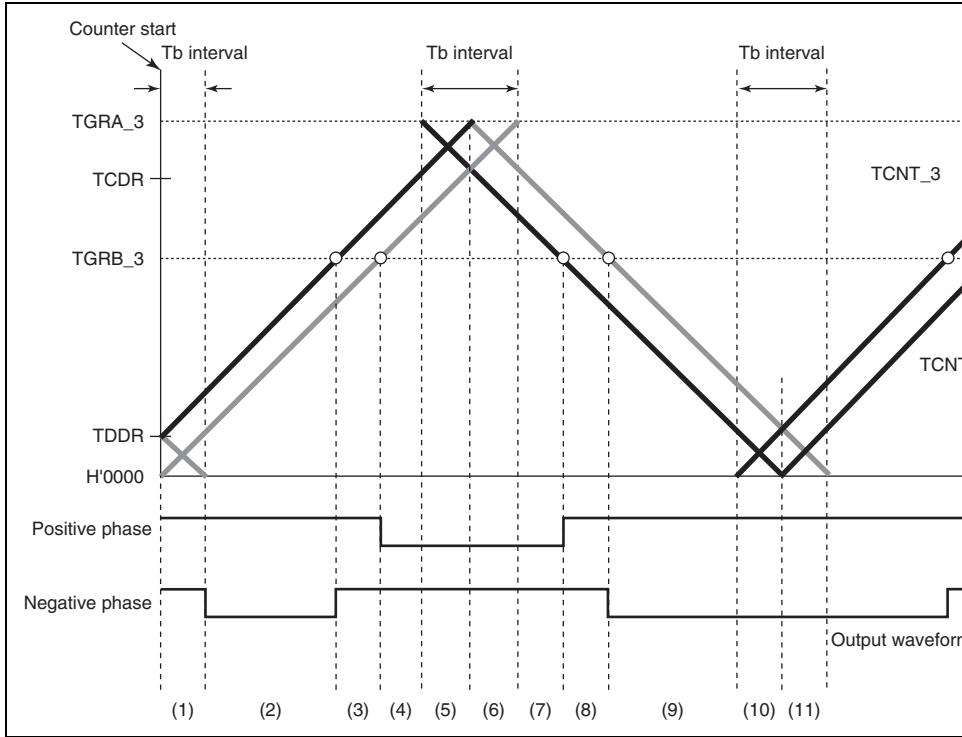

Figure 9.56 Timing for Synchronous Counter Clearing
(Timing (3) in Figure 9.56; Bit WRE of TWCR in MTU2 is 1)
(Timing (6) in Figure 9.56; Bit WRE of TWCR in MTU2 is 1)**
(Timing (11) in Figure 9.56; Bit WRE of TWCR is 1)**